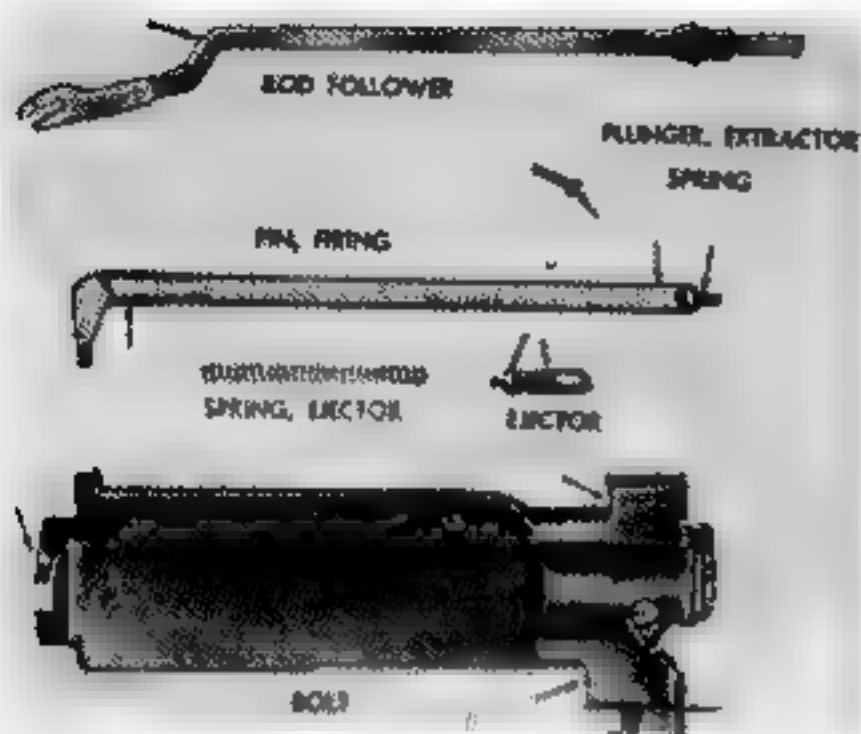
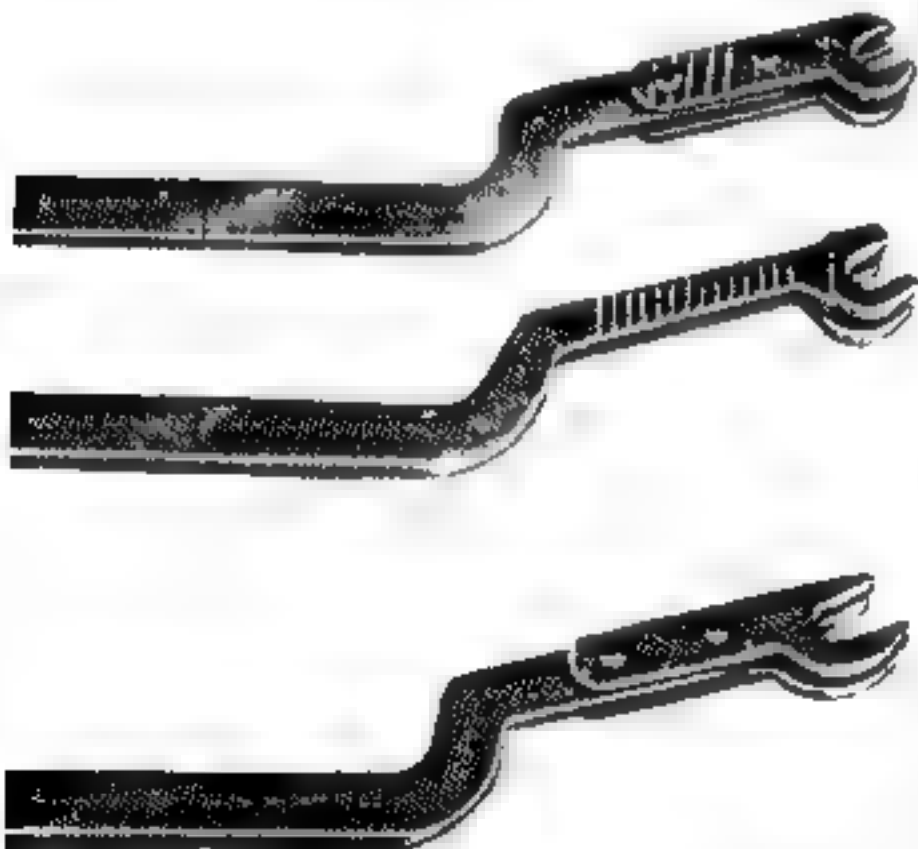

Fig. 118. Follower rod and bolt group points to be inspected.
Fig. 119. Old and New Type Follower Rods. Discard old type short fork rods (top and center), install new type long fork rod (bottom).
46. **Followed rod.** inspect the followed rod (Fig. 118) for a punched or worn fork and for loose rivets. The followed rod should have a long fork; therefore, replace all rods having short forks (see Fig. 119). This is necessary to prevent the rod from disengaging when grenades are being launched